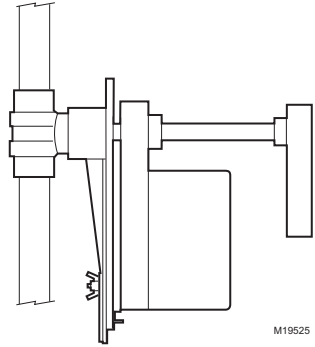

Fig. 6. Vertical valve installation
6. Valve must be mounted with the actuator/bracket above the valve body. Do not install the valve with the stem below horizontal or upside down. (See Fig. 6 and 7.)